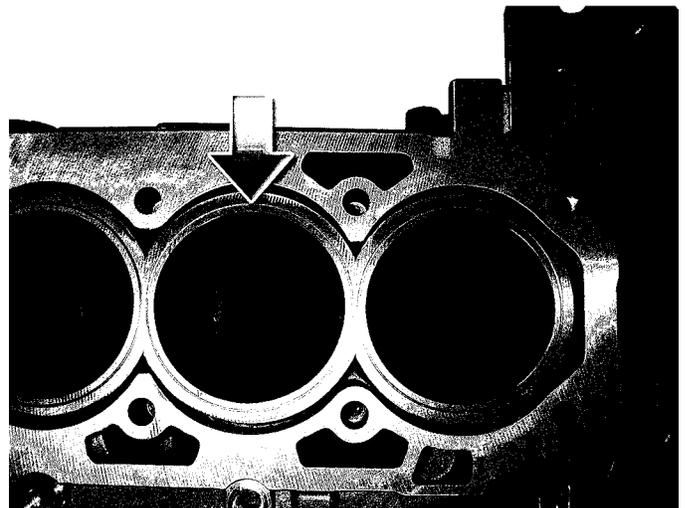

Figure 6
- The cylinder sleeves are machined to accept one piece o-rings (Fig. 6). These o-rings are made of one piece .041" thick stainless steel. The o-rings are installed .008" proud of the cylinder sleeves.